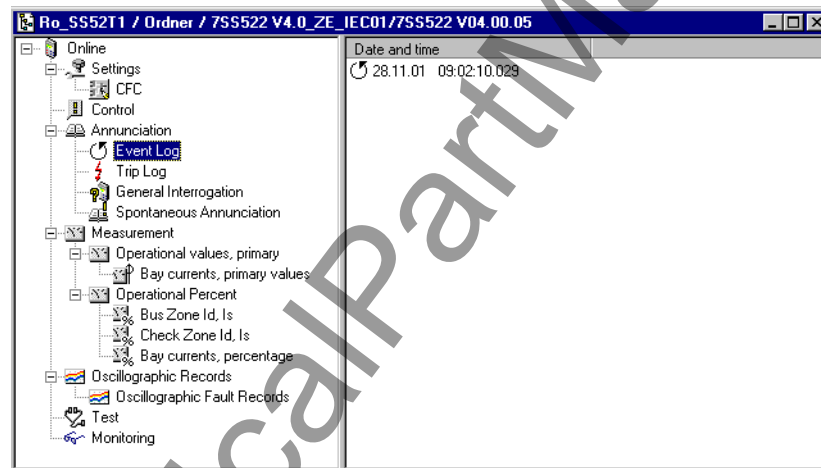

Figure 6-2 Overview of operational events in DIGSI – Example
- ❑ Click **Event log**. A list appears in the data window (right section of the window), (Figure 6-2, page 208).